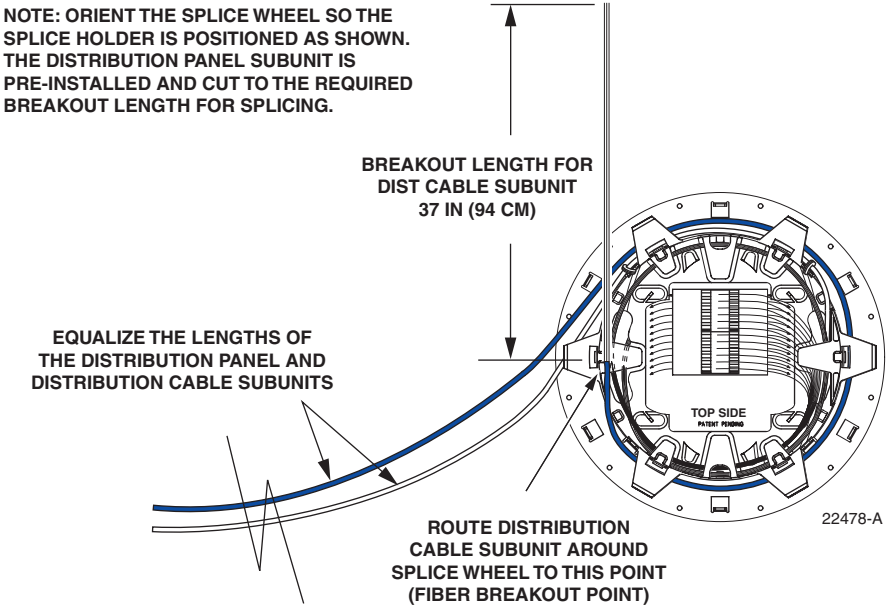

Figure 37. Equalize the Distribution Panel and Distribution Cable Subunit Lengths
7. Starting at the common tie point below the splice wheel, route the distribution cable subunit to the splice wheel. Make sure the distribution cable subunit and distribution panel subunit are same length as shown in Figure 37.
8. Coil the distribution subunit once around the splice wheel and then mark the fiber breakout point (see Figure 37) on the outside of the subunit protective jacket.